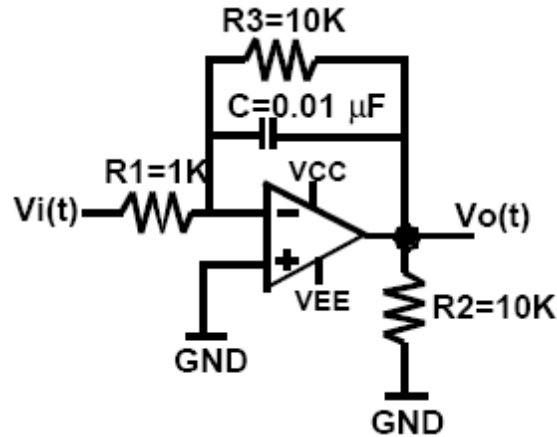

Figure 5. A low-pass filter.
For the circuit in Figure 5 with power supplies $V_{CC} = 12.0\text{ V}$, $V_{EE} = -12.0\text{ V}$, assume the opamp is ideal. The input signal is:
1. Build the circuit in Figure 5 with power supplies +12.0 V, - 12.0 V. Use a sine wave of amplitude 200 mV as an input signal (see item 2 below for frequency) and display both the input and output signals on the oscilloscope (2 to 3 complete cycles). Set probe gain 1X and DC coupling.